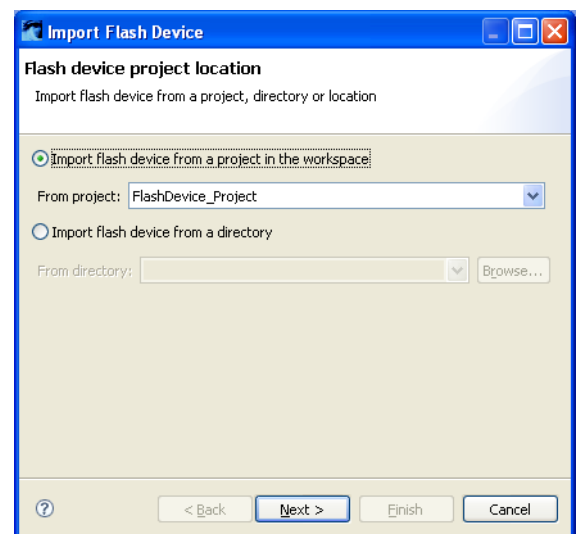

Figure 6-10 Import a flash device
3. Select the project containing your flash algorithm, see Figure 6-10.